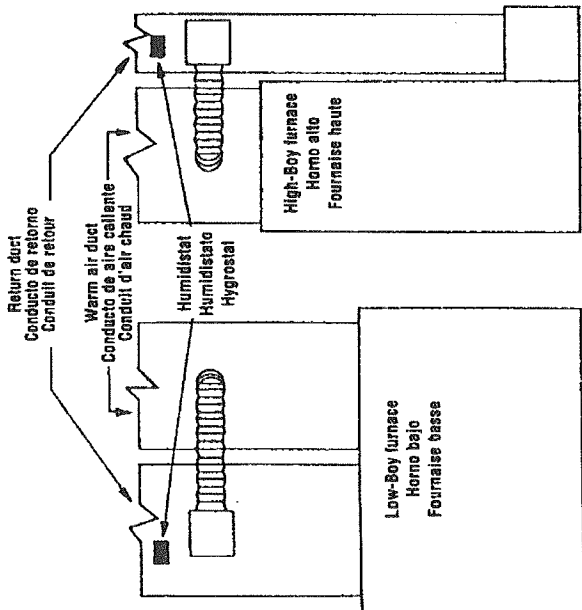

FIG. 1
- Loosen the screw (A) and adjust the float in such a way that it closes the automatic valve when the water level reaches 3/4" from the top of the water pan.
- Tighten the screw (A) when achieved.
15. Installing the humidistat (Please see Fig. 1, 2 and 8)